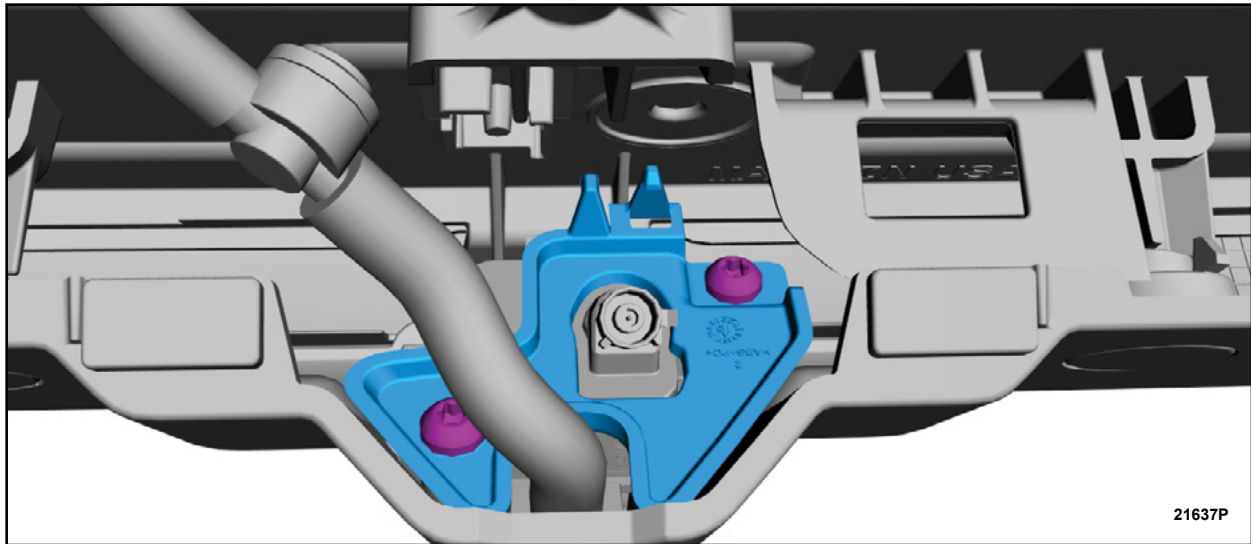

FIGURE 11
5. Remove the screws and the camera bracket. See Figure 11.